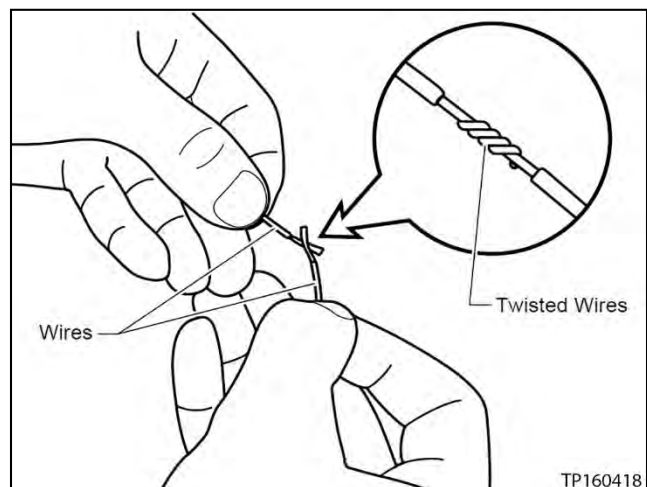

Figure 22
- See Figure 22 for an example of twisting wires.